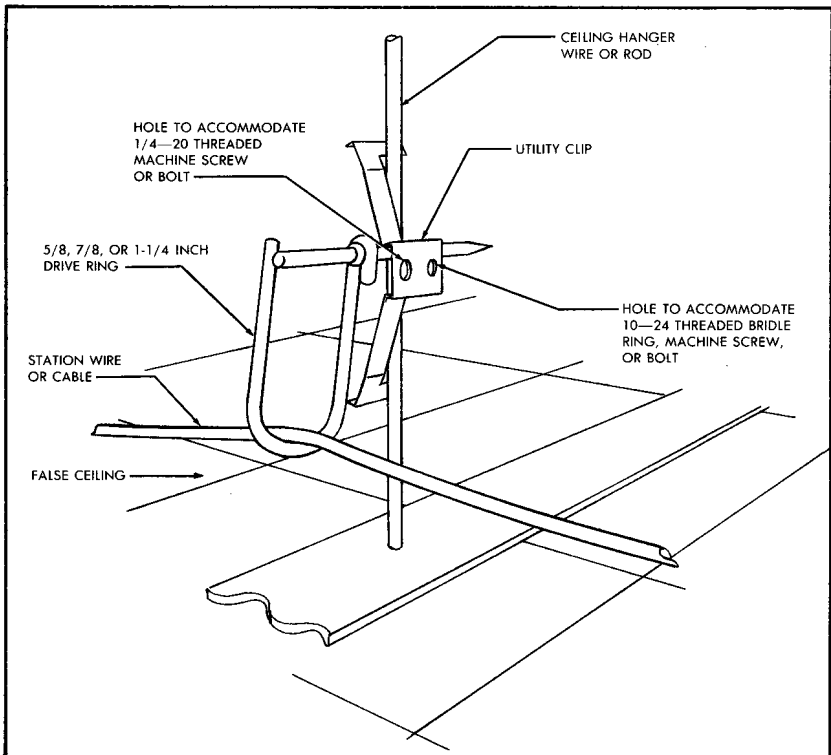

FIGURE 5. Utility Clip On Rod
6.02 Utility Clip (Figures 5 and 6):